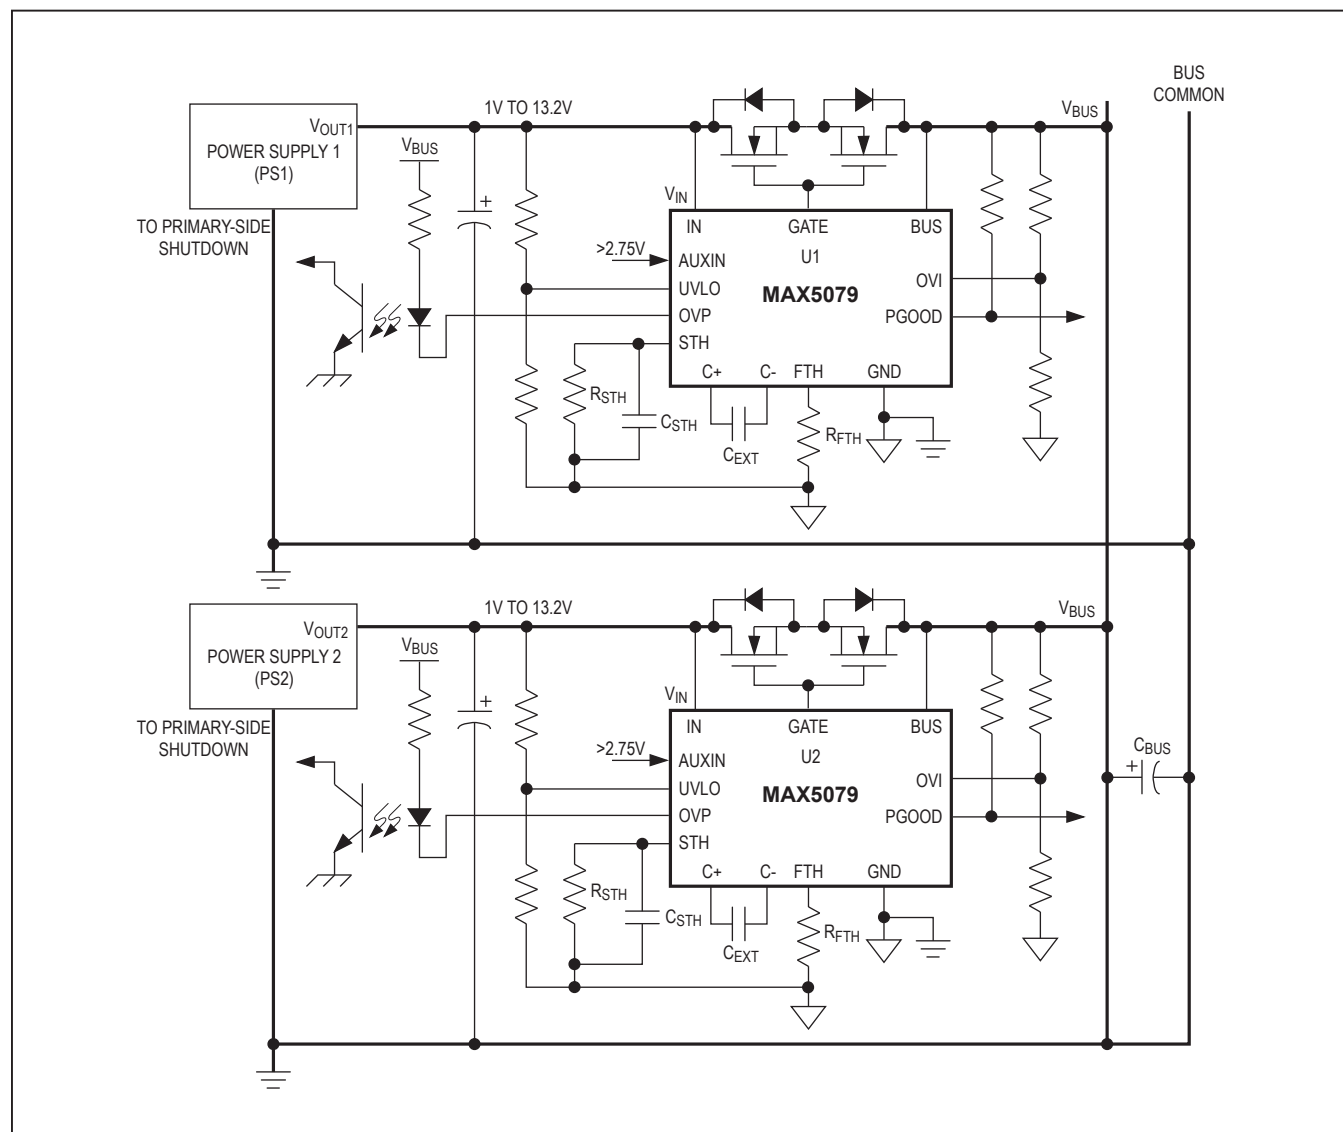

Figure 2. Parallel Supplies with Back-to-Back MOSFET
- a. Use additional n-channel MOSFETs in series with N1, N2, and N3 in the reverse direction to isolate the power supplies from a shorted bus (Figure 2). When power is turned on with a shorted bus,  $V_{IN}$  (U1, U2, U3) increases and  $V_{UVLO}$  rises above the UVLO threshold. The MAX5079's GATE outputs start charging the back-to-back ORing MOSFET gates. The short-circuit condition at BUS collapses  $V_{IN}$  (U1),  $V_{IN}$  (U2), and  $V_{IN}$  (U3) sending the MAX5079s into undervoltage lockout. This turns off the MAX5079s entirely, including discharging of the charge-pump storage capacitors. The IN voltages come back up again crossing UVLO (UVLO has 60mV hysteresis). A new cycle starts and the time required to charge the chargepump capacitor and the turn-on time of the device serves as a dead time. However, the dead time may not be enough to reduce the dissipation in the MOSFETs to an acceptable level. We advise in keeping the short-circuit current low and providing hiccup current-limit protection to the power supplies (PS1, PS2, and PS3).